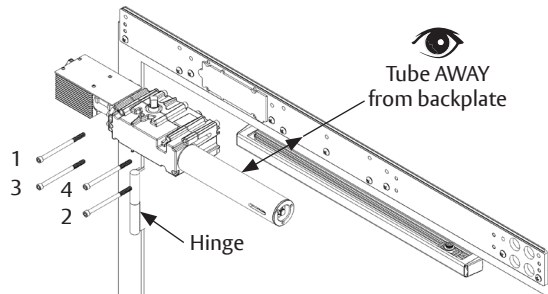

Figure 7 Right Hand Shown
- Using four (4) screws, install closer body to backplate. (Figure 7)
- Screws must be tightened in a cross pattern until all four (4) screws are tight. (Figure 7)
- Closer body is in proper orientation for PULL SIDE application when tube is AWAY from backplate. (Figure 7)